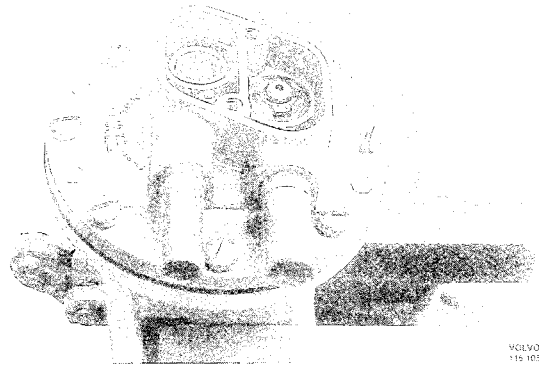

Fig. 5-78. Valve housing
7. Install gaskets and valves (Fig. 5-78).